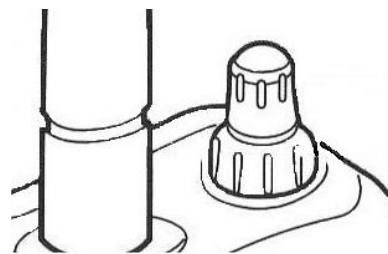

Figure 2.3
6. Turn the Transceiver ON by rotating the On/Off volume control knob clockwise. Rotate the squelch control knob clockwise until the desired noise level is reached. (Figure 2.3).